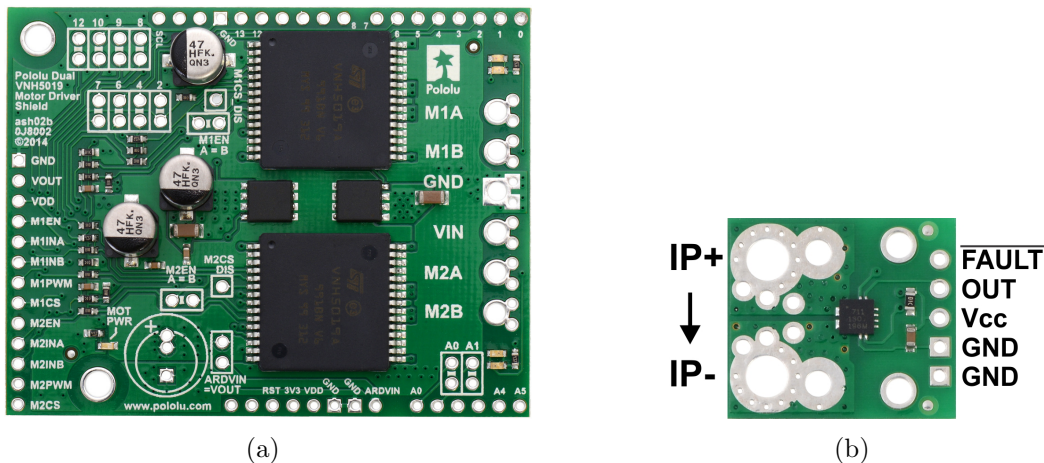
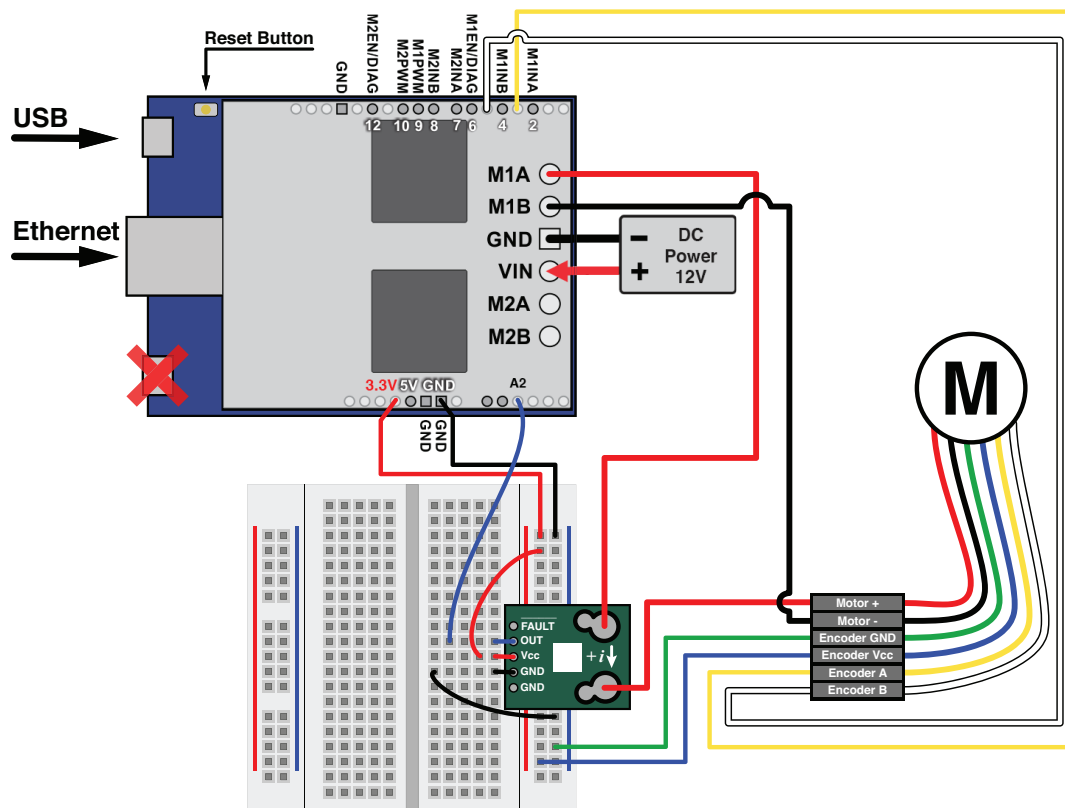

Figure 3: (a) Pololu dual VNH5019 motor driver shield for Arduino, (b) ACS711EX Current Sensor.
Figure 5: Wiring diagram.
- (a) Put the motor drive shield (Fig. 3(a)) on the FRDM board. Note that the shield is designed for Arduino UNO and FRDM board has compatible pinouts.
- (b) Connect the analog current sensor (Fig. 3(b)) and the motor to the FRDM/shield assembly following the instruction of Fig.5. The sensor output connects to pin “A2” on the FRDM board.